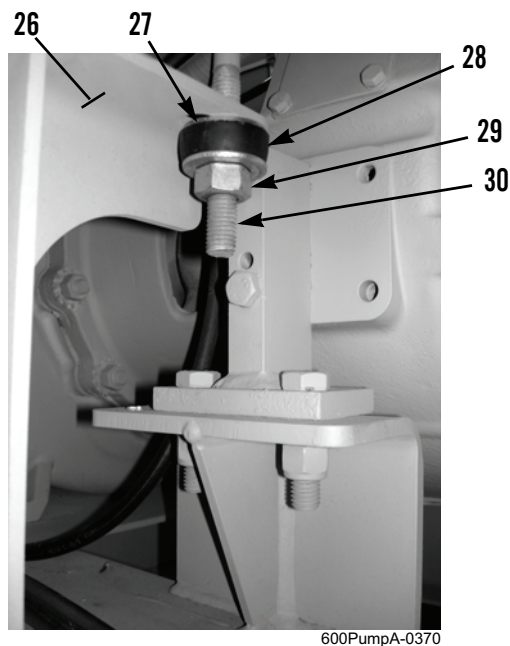

Figure 16. Discharge Manifold Front U-Bolt.
12. Install discharge manifold front U-bolt (Figure 16, Item 30) on bracket (Figure 16, Item 26) with four washers (Figure 16, Item 27), two shock mounts (Figure 16, Item 28), and nuts (Figure 16, Item 29).